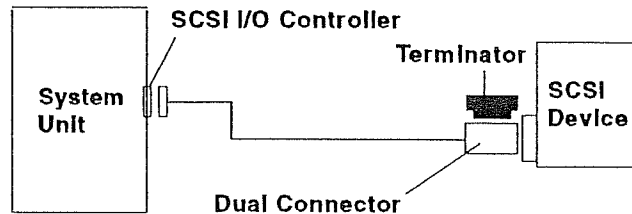
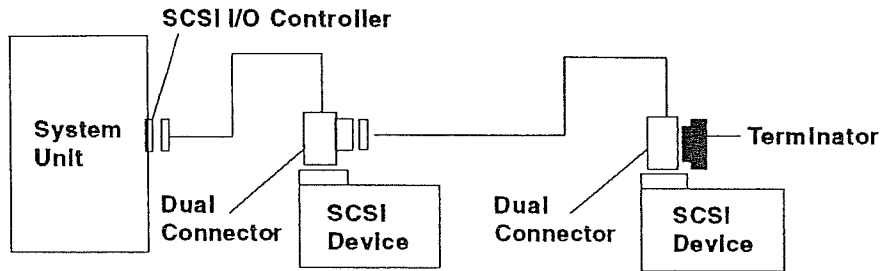

Figure 2-3. Example of Attaching Only One SCSI Device
Figure 2-4. Example of Attaching Multiple SCSI Devices
- Connect the other end of the SCSI cable to either the system unit, if the 7208 Tape Drive is the only device on the SCSI bus (see Figure 2-3), or the next device if this is a multiple device configuration (see Figure 2-4 on page 2-7).
- If the 7208 Tape Drive is the only SCSI device on the SCSI bus, the terminator must be installed on the dual connector of the SCSI cable installed in the previous step, as shown in Figure 2-3.
- If there is more than one device on the SCSI bus, move the terminator to the last device as shown in Figure 2-4 on page 2-7.